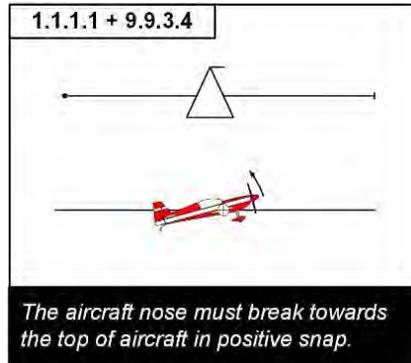

Figure 55
1) Pitch Departure: The aircraft must display a clearly visible change in pitch attitude in the proper direction – towards the canopy in positive snaps; towards the wheels in negative snaps (Fig. 55 & 56).